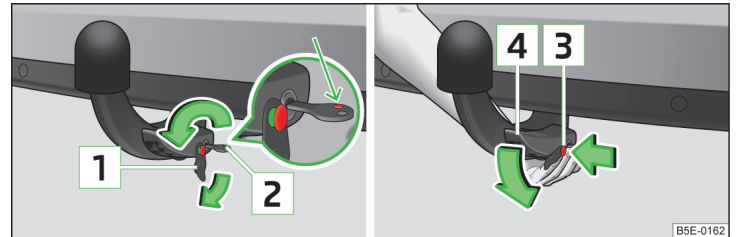

Fig. 157 Unlock the operating lever of the ball head/removing the ball head
- Remove the cap **1** » Fig. 157 from the lock on the tow bar in the direction of the arrow.